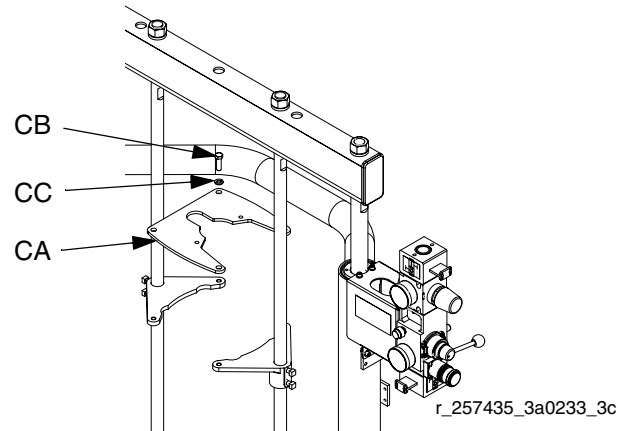

FIG. 9
1. Position the mounting brackets (42) so that the top of the pump will clear the support beam (4).
2. For President, Monark Check-Mate 200, and *Fire-Ball Pumps only*, install the mounting plate (CA) onto the mounting brackets (42) using four screws (CB) and lockwashers (CC). See FIG. 9.